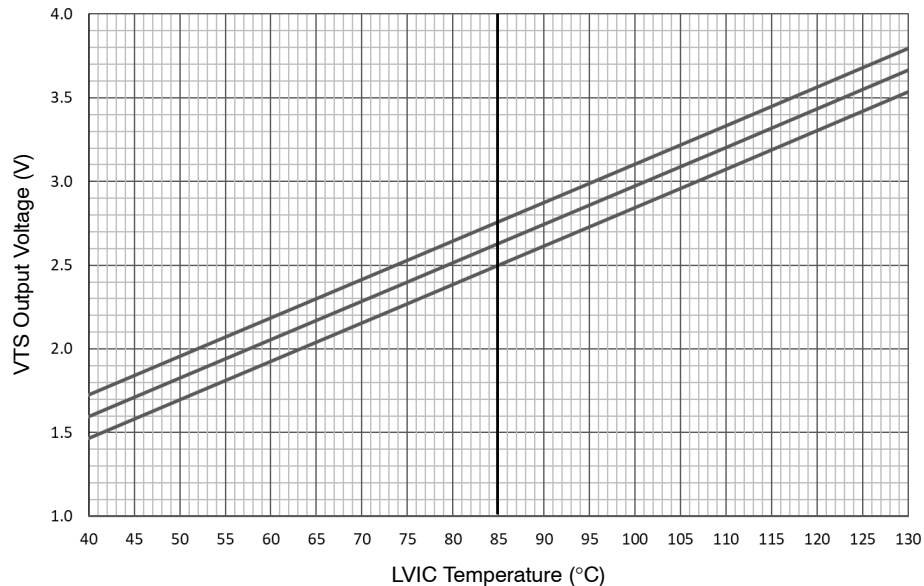
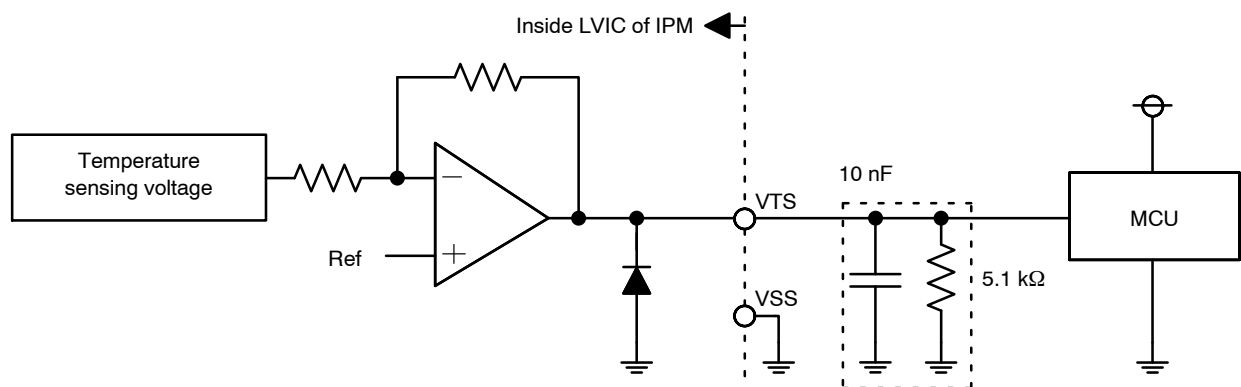

Figure 4. Temperature of LVIC vs. VTS Characteristics
Figure 5. Internal Block Diagram and Interface Circuit of VTS
5. TLVIC is the temperature of LVIC itself. VTS is only for sensing temperature of LVIC and cannot shutdown IGBTs automatically. The relationship between VTS voltage output and LVIC temperature is described in Figure 4. It is recommended to add 5.1 kΩ pull down resistor between VTS and VSS (Signal Ground) as described in Figure 5 for linear output characteristics at low temperature. Refer to the application note for usage of VTS.